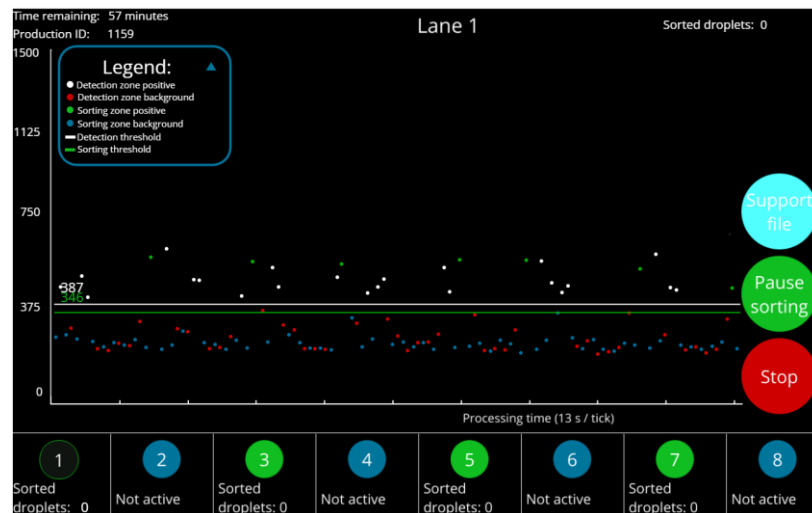

Fig. 3.14. This droplet view screen displays during droplet analysis when sorting is applied.
1. Once the thresholds have been set on all the lanes press **Start sorting** (Fig. 3.14).